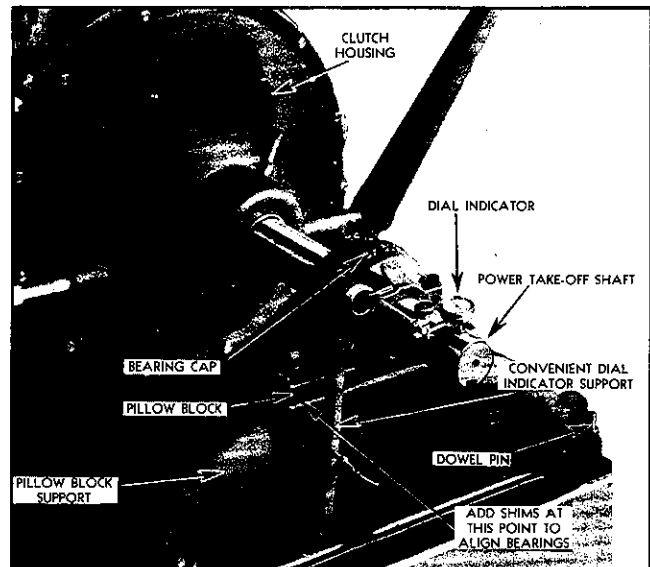

Fig. 5—Indicating Outer End of Power Take-off Shaft for Bearing Alignment.
- (f) Determine the proper thickness of shims to use under the pillow block support to align the three bearings on the shaft. This is done by mounting a dial indicator as shown in Fig. 5, with indicator button resting on top side of shaft to the rear of the bearing. With engine bolted down tight, note how much the outer end of the shaft springs down when the trunnion support is bolted down tight to the engine base. The required thickness of shims to add under each leg of support will be shown by the indicator. Add this amount of shims and again take indicator readings with support bolted down. The shaft should align within .002" with engine and trunnion support bolted tight to engine base.